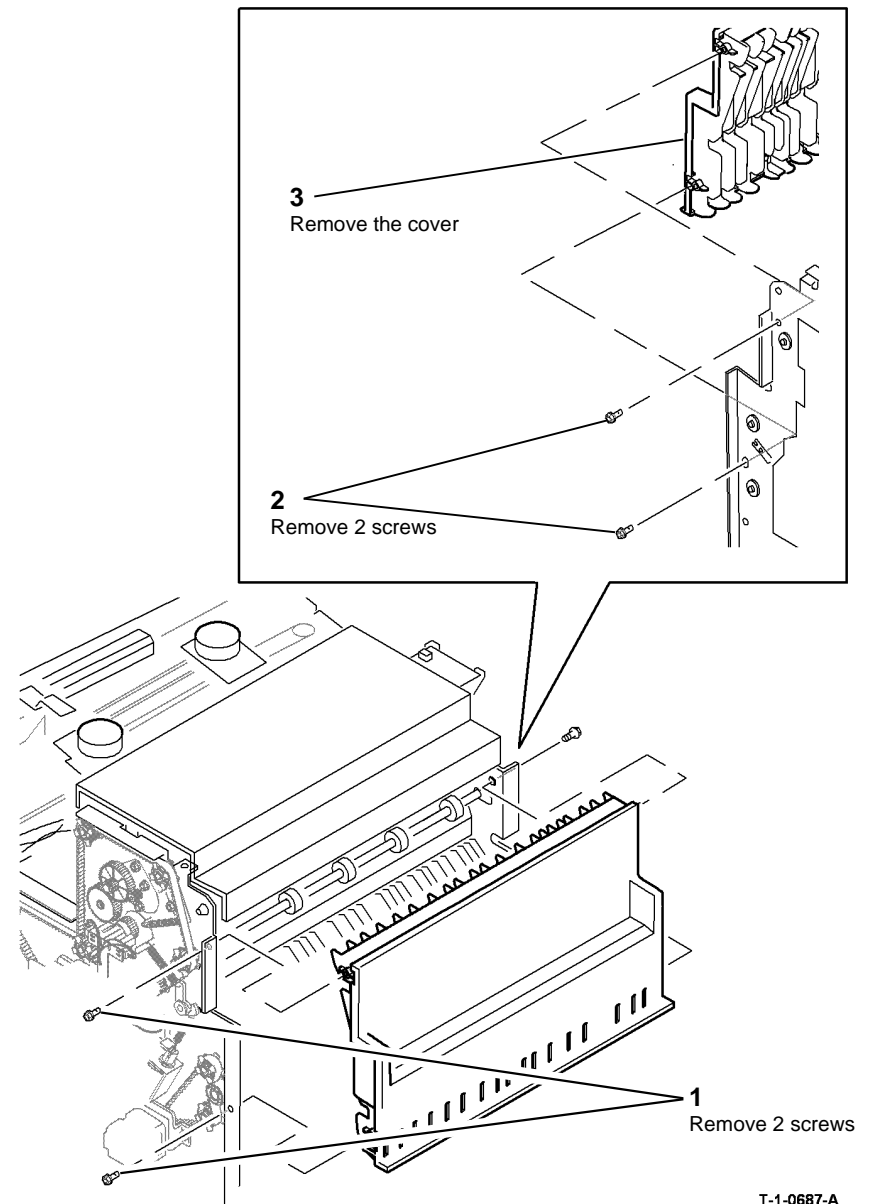

Figure 1 Entry guide cover removal
4. Remove the entry guide cover, Figure 1